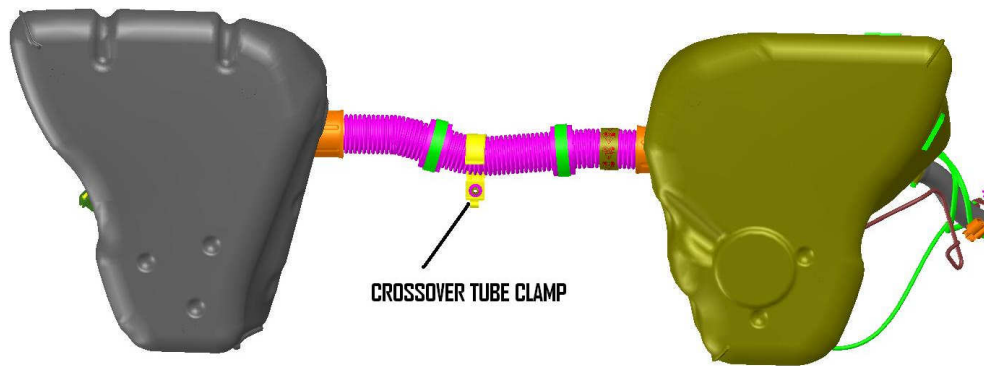

FIGURE 1-1
5. Remove the crossover tube from the clamp located above the transmission. **FIGURE 1-1**